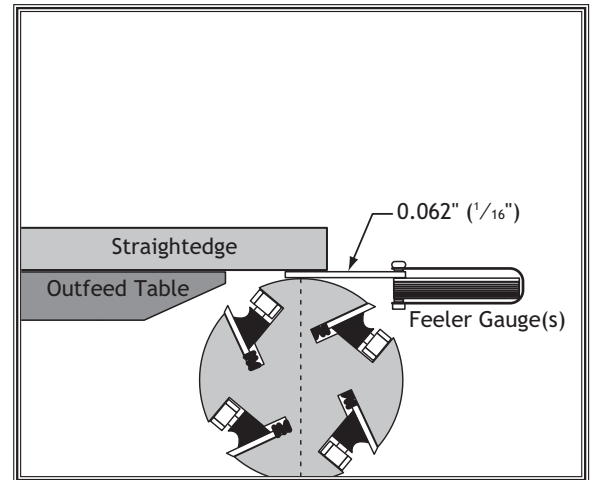

Figure 49. Using feeler gauge(s) to set outfeed table height.
5. Place the straightedge on the outfeed table so it hangs over the cutterhead, and lower the outfeed table until the straightedge is 0.062" above the cutterhead body, as determined by using the feeler gauges (see **Figure 49**).